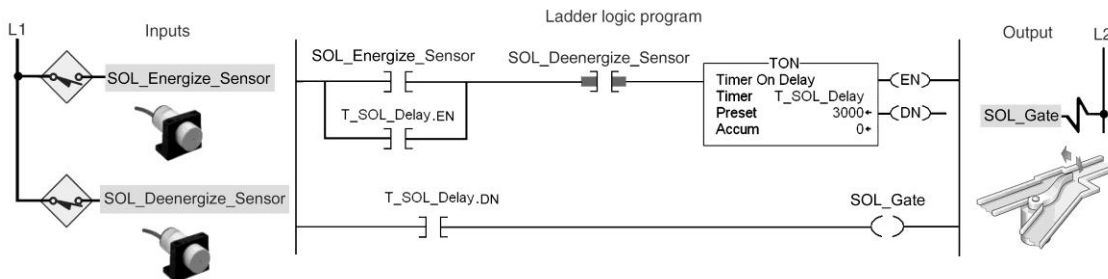

Figure 15-26 TON timer program used to delay the operation of a diverter for assignment 2.
- 2) A TON timer program used to delay the operation of a diverter gate is shown in Figure 15-26 and described in the text. Prepare an I/O connection diagram and ladder logic program that will simulate its operation. Utilize field devices found on your ControlLogix installation. Enter the program into the controller, and monitor its operation.